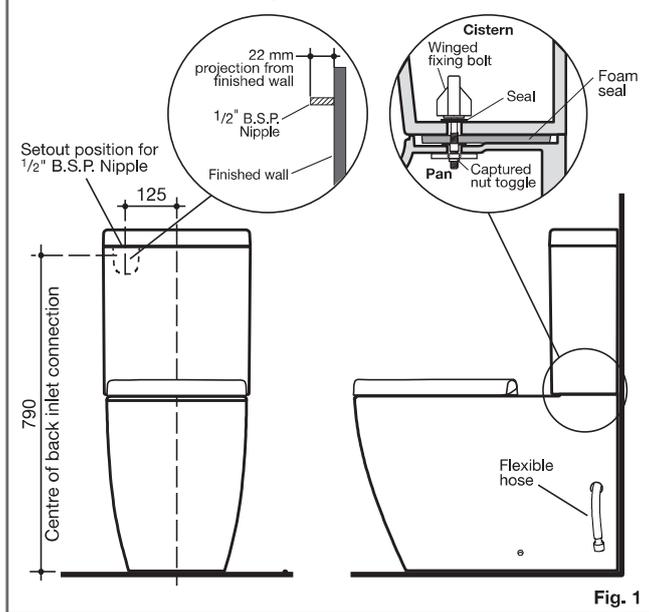

Fig. 1
- 3- Fit the seals into the winged fixing bolts, as detailed in Fig. 1. Twist and remove main top section of outlet valve to access bottom of cistern.
- 4- Insert the winged fixing bolts through the cistern fixing holes into the threaded fixing holes located in the pan. Gradually tighten the left and right hand nuts by hand to firmly secure the cistern to pan, as detailed in Fig. 1. Replace outlet valve ensuring orientation is correct.
- 4- Insert the winged fixing bolts through the cistern fixing holes into the threaded fixing holes located in the pan. Gradually tighten the left and right hand nuts by hand to firmly secure the cistern to pan, as detailed in Fig. 1.